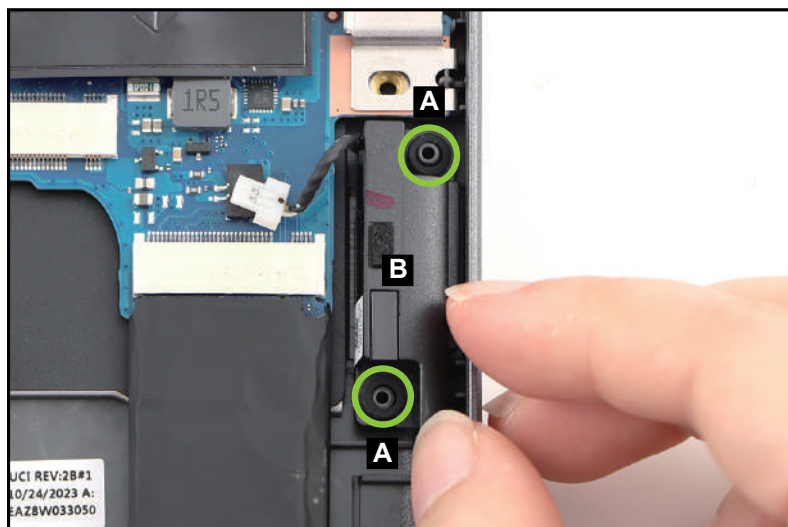

Figure 3-128. Replacing the Left Speaker
1. By aligning with the guide pins (A), install the left speaker (B) onto its compartment on the top assembly (Figure 3-128).